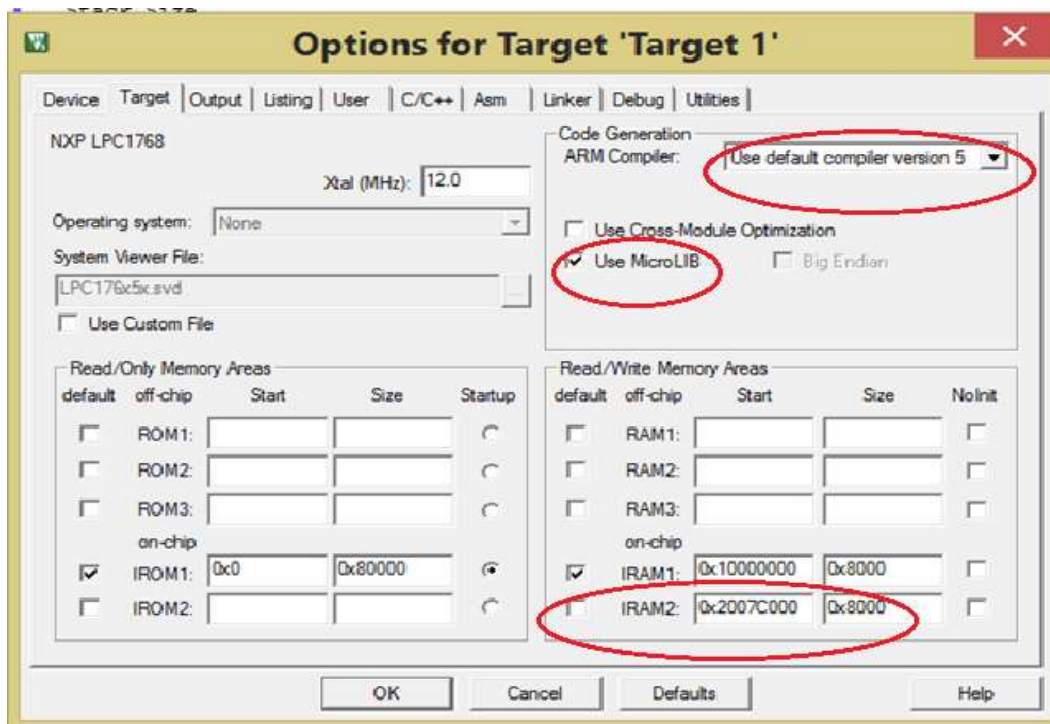

Figure 11
11. Perform the following changes as shown in Figure 11. Under Target, ARM Compiler> **Use default compiler version 5**. Moreover, check> **Use Micro LIB**, and uncheck> **IRAM2**